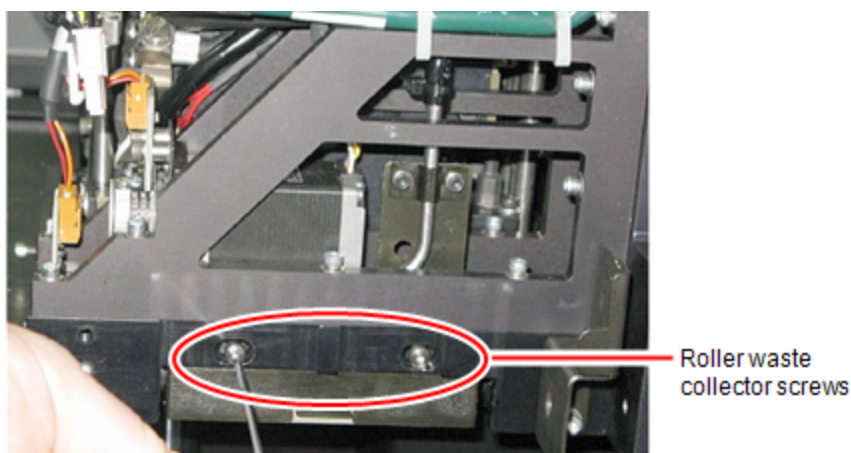

Figure 4-52 Removing the roller waste collector screws
1. Return the roller waste collector to the print block and screw on the covering (see Figure 4-52 on the previous page).